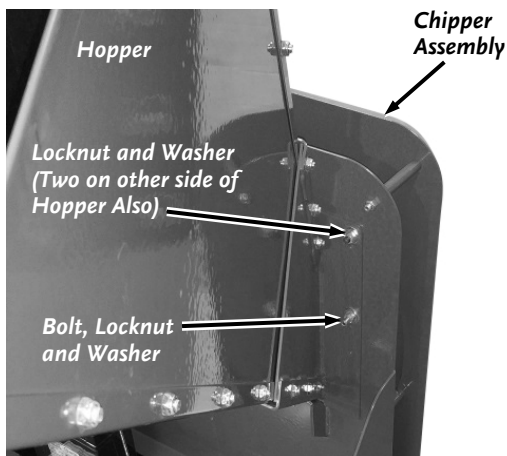

Figure 16b: 21.0
2. Position the Hopper Assembly onto the Housing Support and the three Housing Studs (**Figure 16b**) and secure the Bolt to the Hopper Assembly with a 5/16-18 Locknut and Washer using two 1/2" Wrenches.